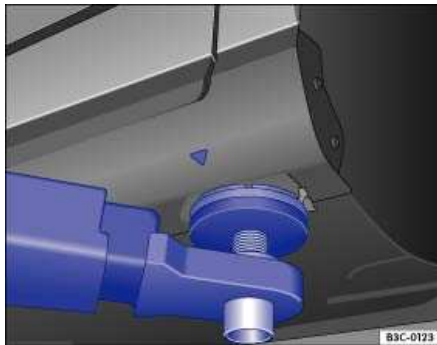
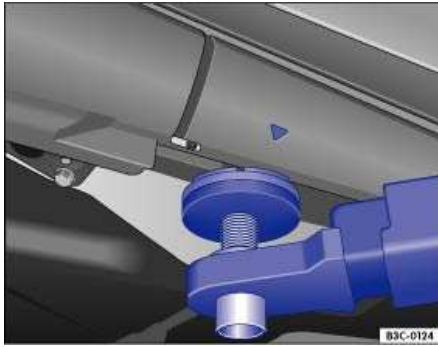

Fig. 49 Front lift point for workshop lift or floor jack.
Fig. 50 Rear lift point for workshop lift or floor jack.
Your vehicle may only be lifted by a floor jack or workshop lift using the lift points shown ⇒ Fig. 49 and ⇒ Fig. 50. Lifting the vehicle from a point other than that shown above can result in serious damage to the vehicle ⇒  and cause serious personal injury ⇒ .
- Always lift your vehicle only at the designated lift points shown in the illustrations ⇒ Fig. 49 and ⇒ Fig. 50. Not using the designated lift points can cause the vehicle to fall off the floor jack when heavy parts such as the engine or transmission are removed.